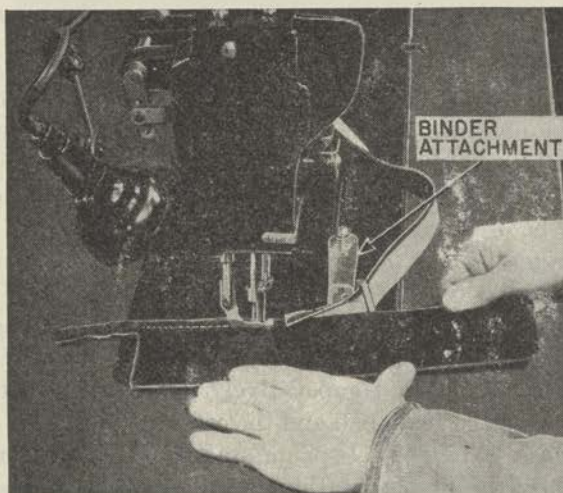

FIGURE 107.—Use of binder attachment.
8. *Binder attachment.*—Using the binder attachment for the sewing machine (fig. 107) makes the application of bindings to cardboard and other materials easier and faster.
24. Replacing door and cowl panels.—Most door and cowl panels of Army vehicles are simply cut with shears from black cardboard, bound with bias tape on the sewing machine, preferably using the binder attachment (fig. 107), and fastened in place with saddle tacks or whatever other means was used on the old panel. Door panels for passenger cars are purchased from the manufacturer to match the interior trim, ready for installation.